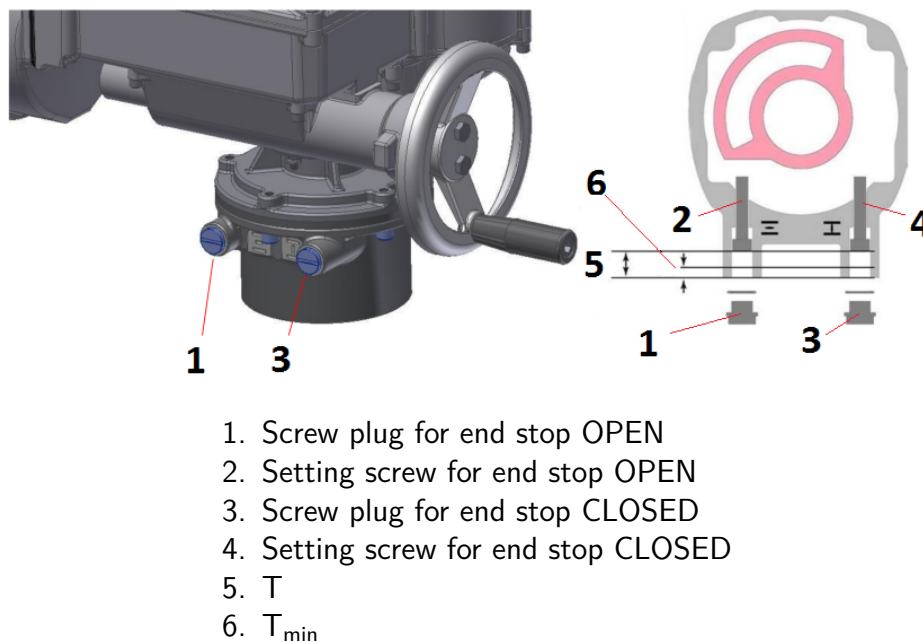

Figure 4.8: Cross section of compartment for end stop screws
- Never completely remove the setting screws [2] and [4] to avoid grease leakage (refer to figure 4.8).